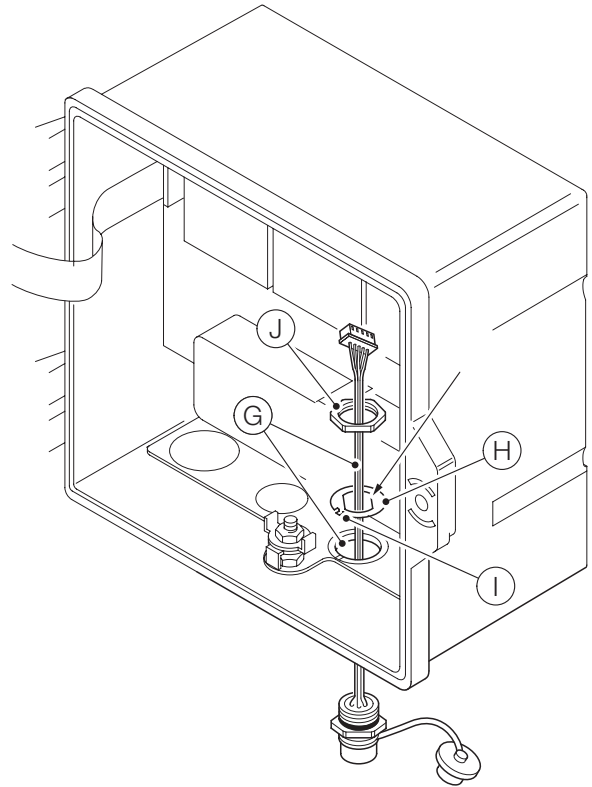

Figure 13 Preparing EZLink connector cable fixings
Referring to Figure 13:
- 7 Fit alignment tab (I) into gland plate slot (K) (on plastic case variant) or in the casting slot (on metal case variant).
- 8 Insert EZLink connector body (L) fully into cable entry and align the connector body using the flats on the alignment washer (see Figure 13).
- 9 Screw back nut (J) onto connector body and tighten using a spanner.